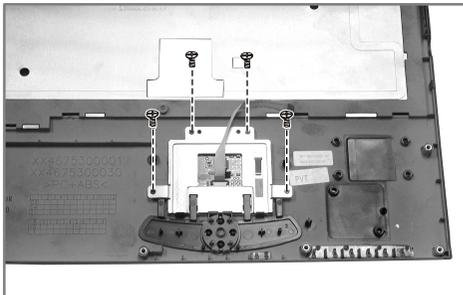

Figure 2-29 Disconnect the cable
5. Remove four screws fastening the touch pad bracket. Then remove it. (Figure 2-29)